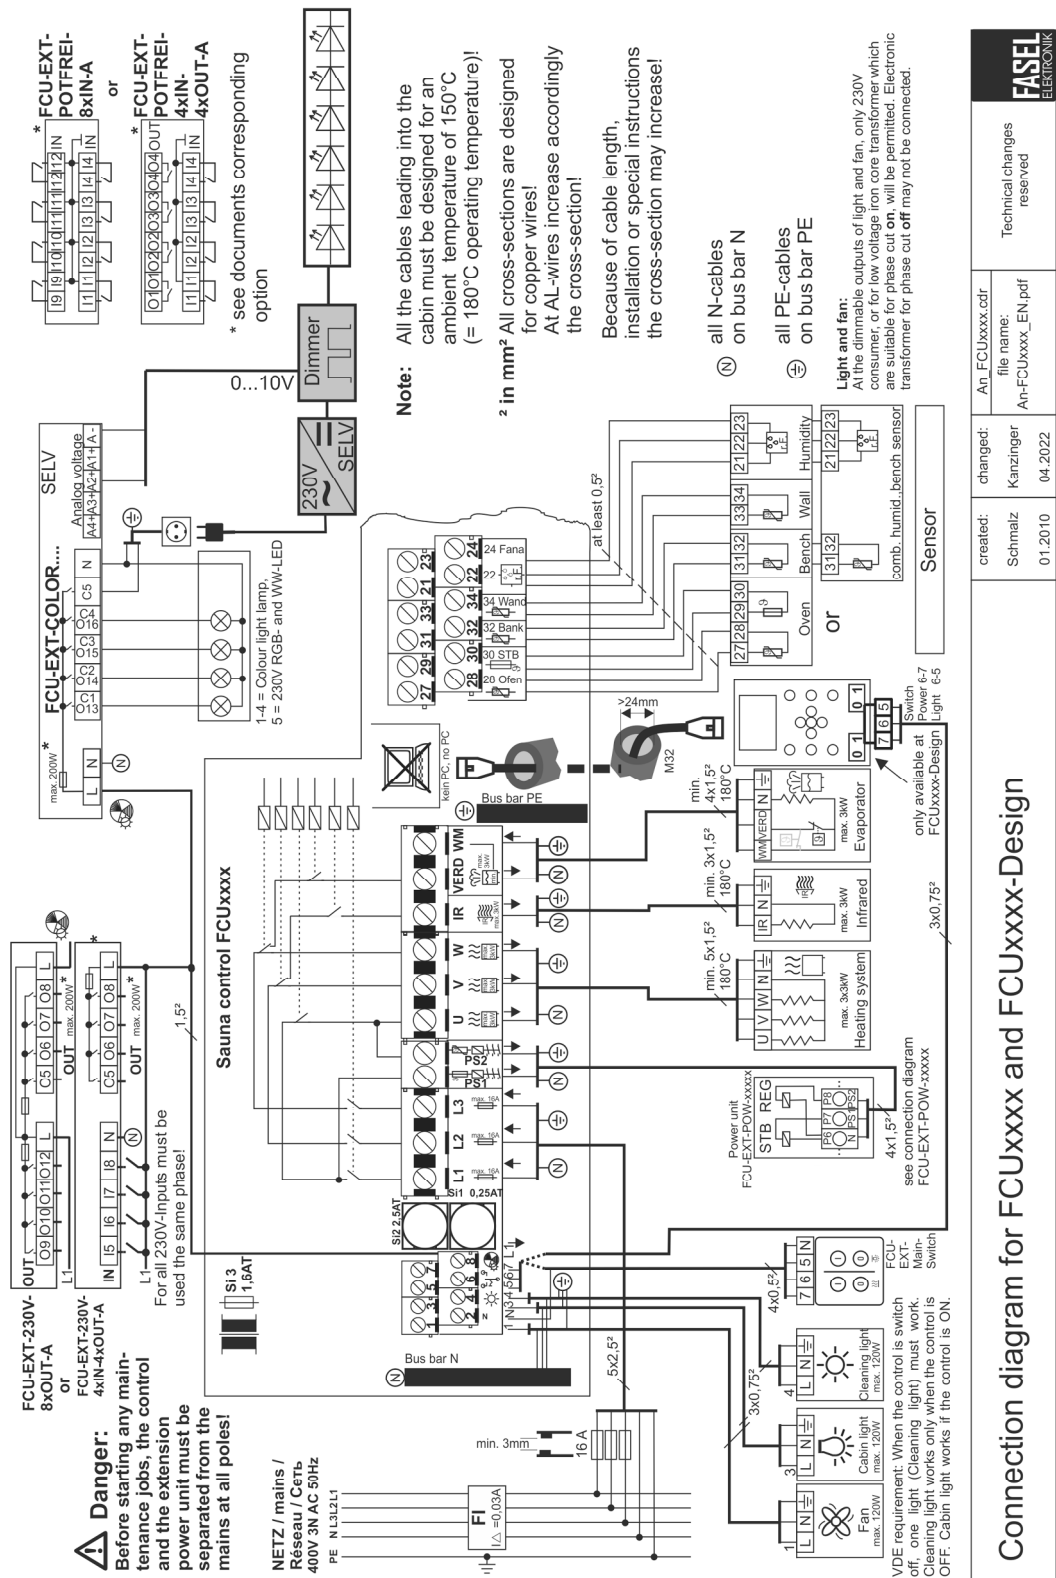

Figure 18: Electrical circuit diagram
- Have the cable specifications given in Table 2, page 10 and the electrical circuit diagram Figure 18, page 30 been followed?
- Have the cable specifications as per Table 2, page 10 and the electrical circuit diagram Figure 18, page 30 been adhered to?